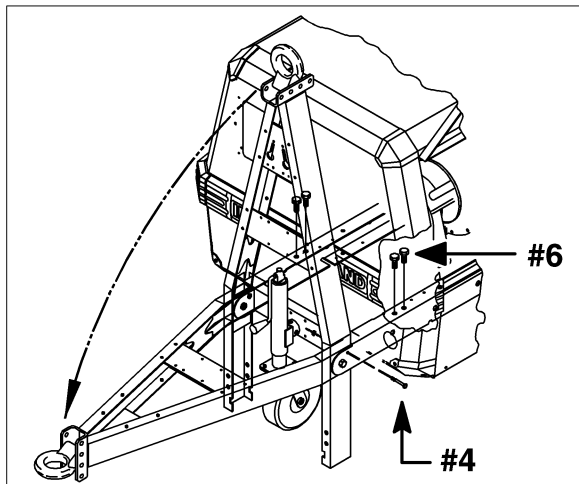

Figure 1
4. Remove the temporary retaining bolts from both sides of the frame at the drawbar connection (See Figure 1).